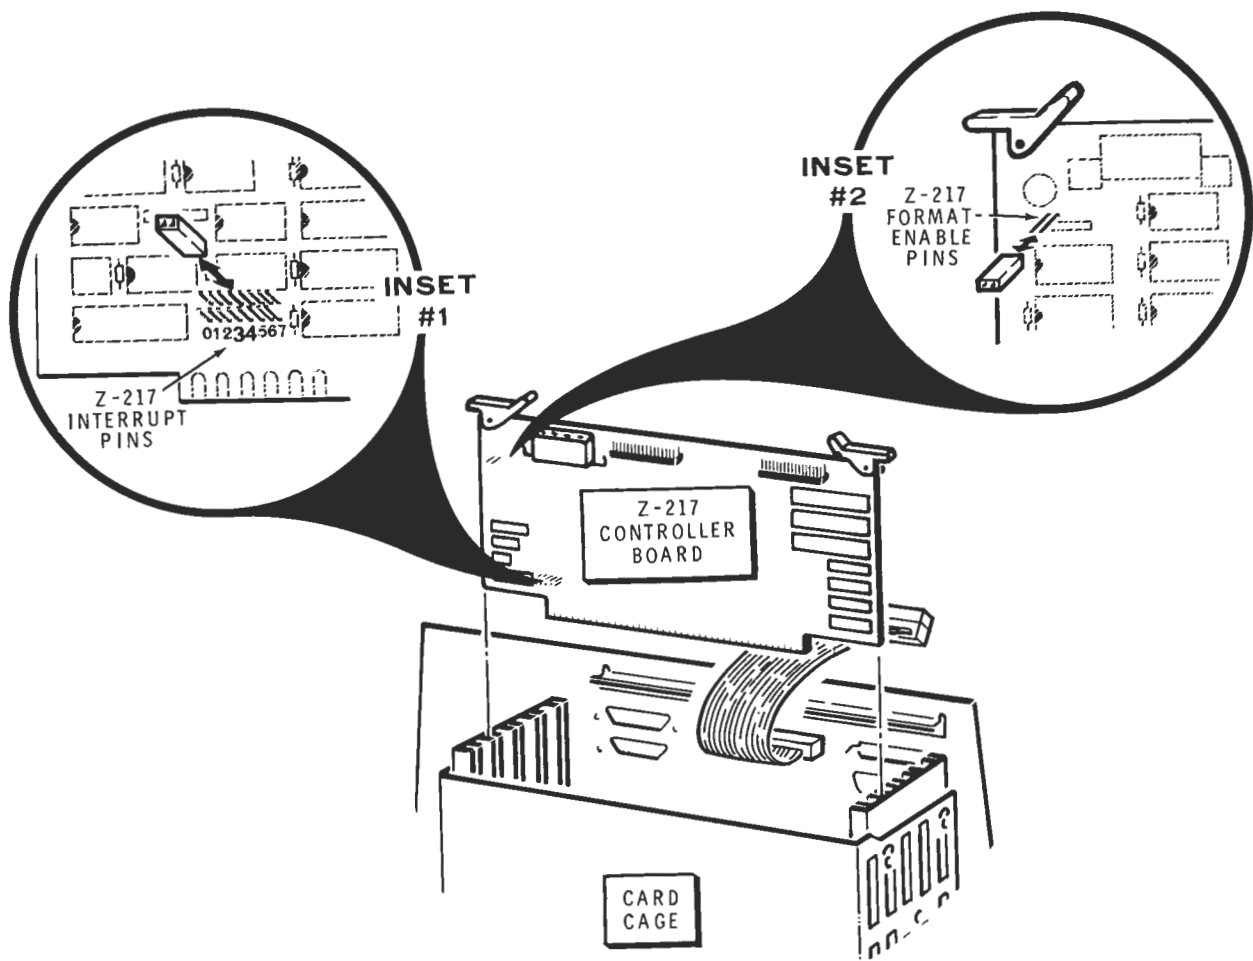

Figure 11.2
- () 4. Locate the Z-217 Winchester Disk Controller Board in the "Card Cage" illustrated in Figure 11.2.
- () 5. Gently slide the Z-217 controller board upward until the area shown in Inset #1 of Figure 11.2 is above the top of the card cage. Do not remove the Z-217 board completely from the card cage. As you slide the board upward, be certain that some of the board is still anchored between the vertical tracks of the card cage.
- () 6. Locate the jumper covering the pins shown in Inset #1 of Figure 11.2. Remove this jumper by carefully sliding it away from the board. Be careful not to bend the pins.
- () 7. Locate the two pins shown in Inset #2 of Figure 11.2. Carefully slide the jumper over these pins. Be careful not to bend the pins.